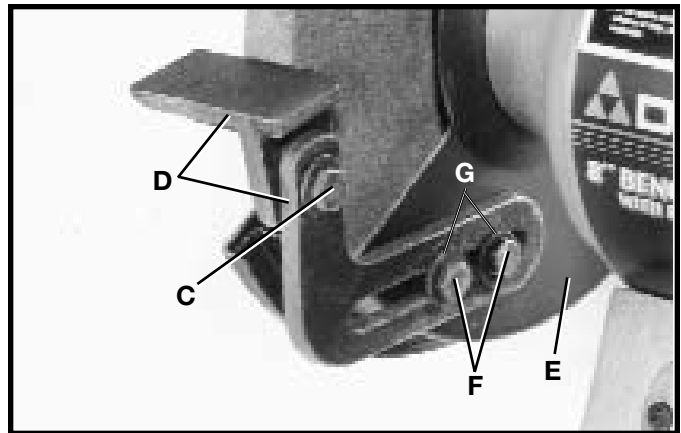

Fig. 4
2. Assemble left tool rest assembly (D) Fig. 4, to the inside of left wheel guard (E), and fasten with two 5/16-18x5/8" screws (F) and 3/8" flat washers (G) as shown.
4. Each tool rest assembly (D) Fig. 4, is adjustable so it can be positioned slightly below the centerline of the wheel and as close to the grinding wheel as possible, giving maximum support to the piece that is being ground. A distance of 1/8-inch or less between the grinding wheel and the inside edge of the tool rest should always be maintained. When the tool rest is positioned correctly, tighten hardware (C) and (F). As the grinding wheel wears down to a smaller diameter, re-adjust the tool rest closer to the wheel. Freehand grinding without the use of a tool rest should always be done on the lower quarter of the wheel.